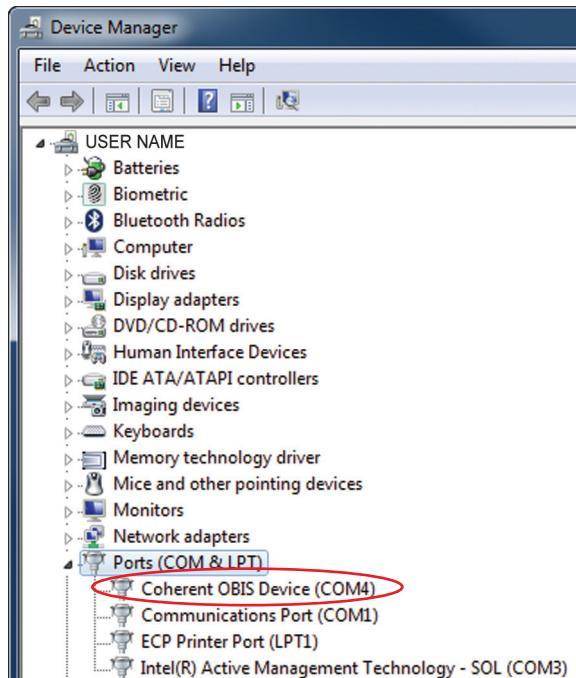

Figure VI-2. Verify Device Connected
5. Verify that the device just connected to the PC is listed in Device Manager, as shown in the example in Figure VI-2: